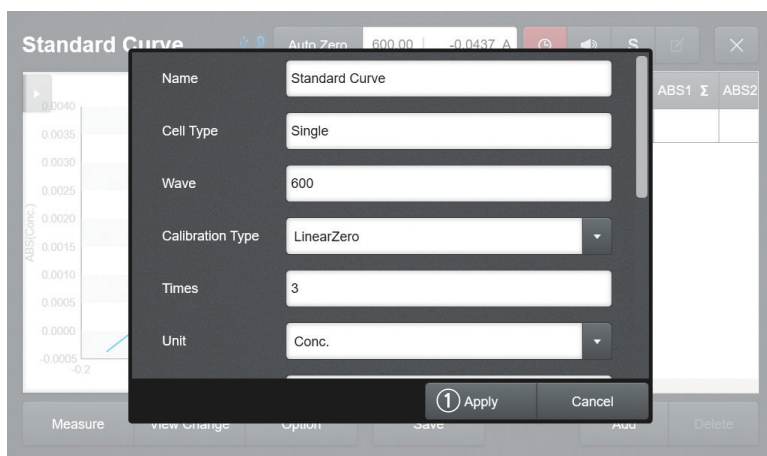

Fig. 4.14
4. [Fig. 4.14] Select and enter the Name, Cell Type, Wavelength, Calibration Type, Times, Unit, Memo, and View Change, then press ① **Apply**
5. [Fig. 4.14] Press the ⑤ **Add** button and enter the density of the standard sample.